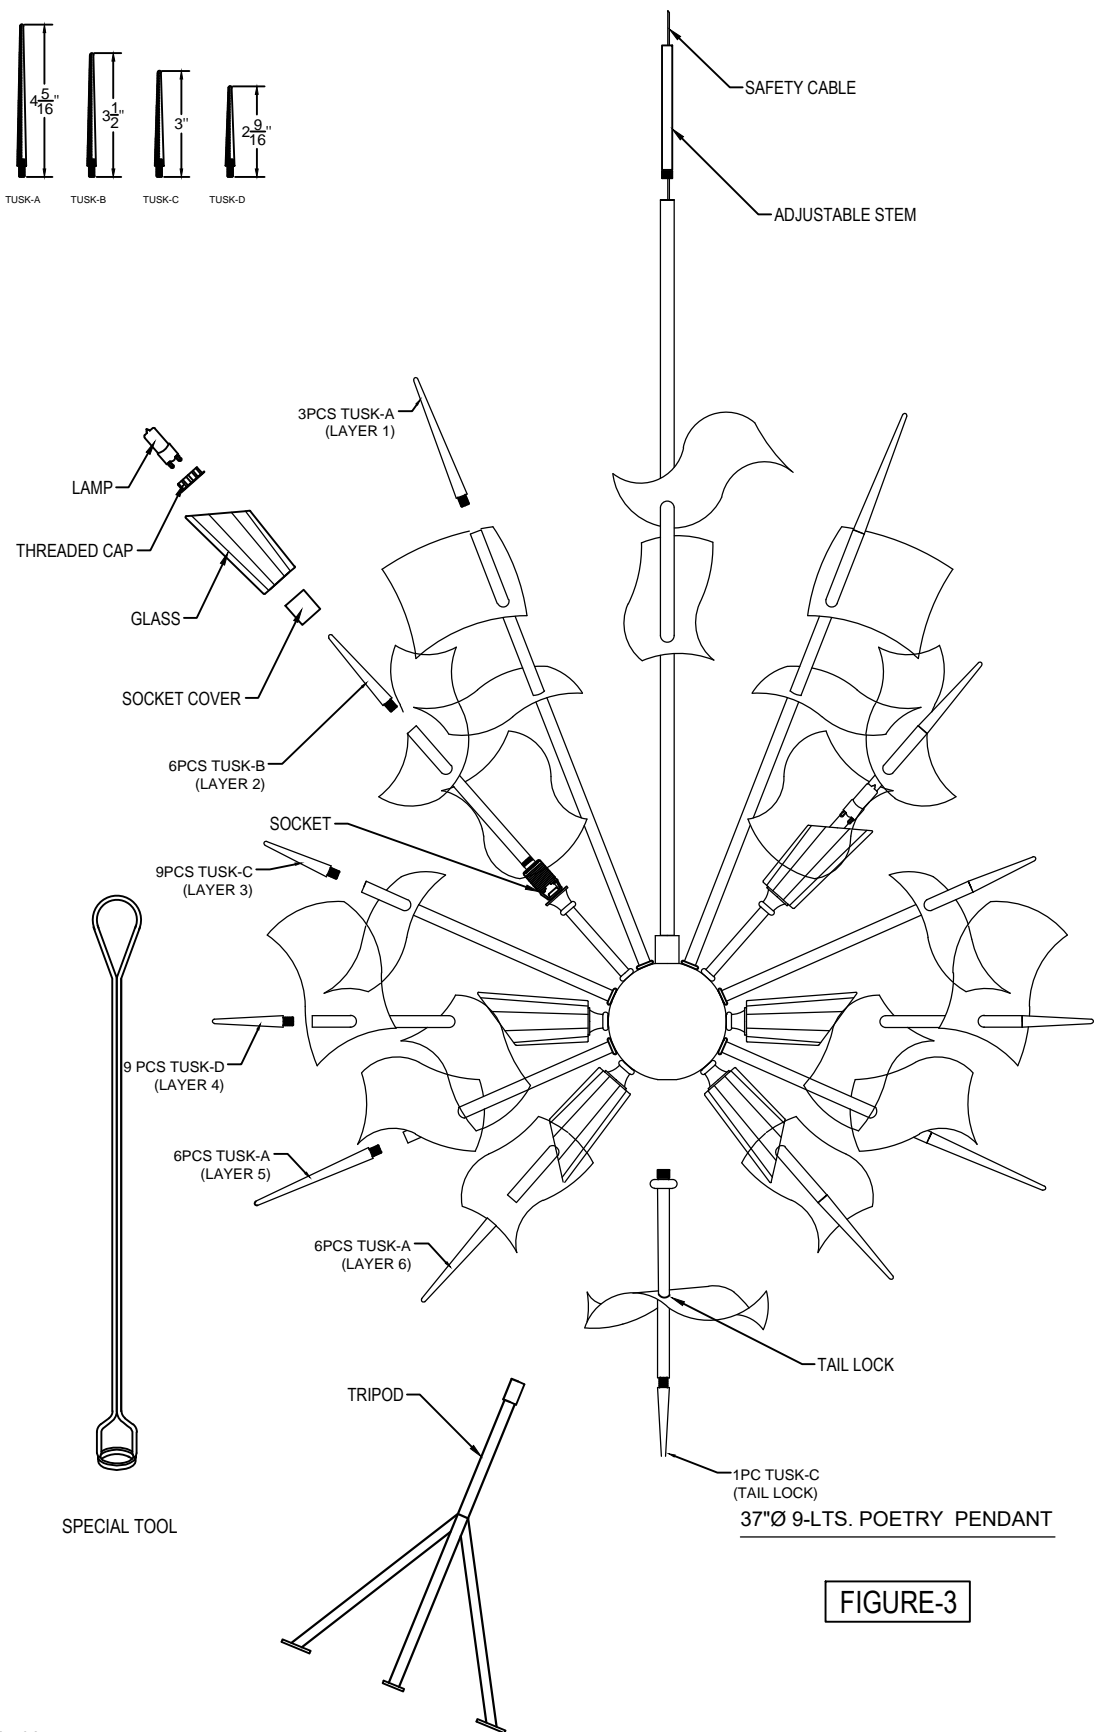

FIGURE-3
10. Place the glass (See figure-3) using the special tool supplied.